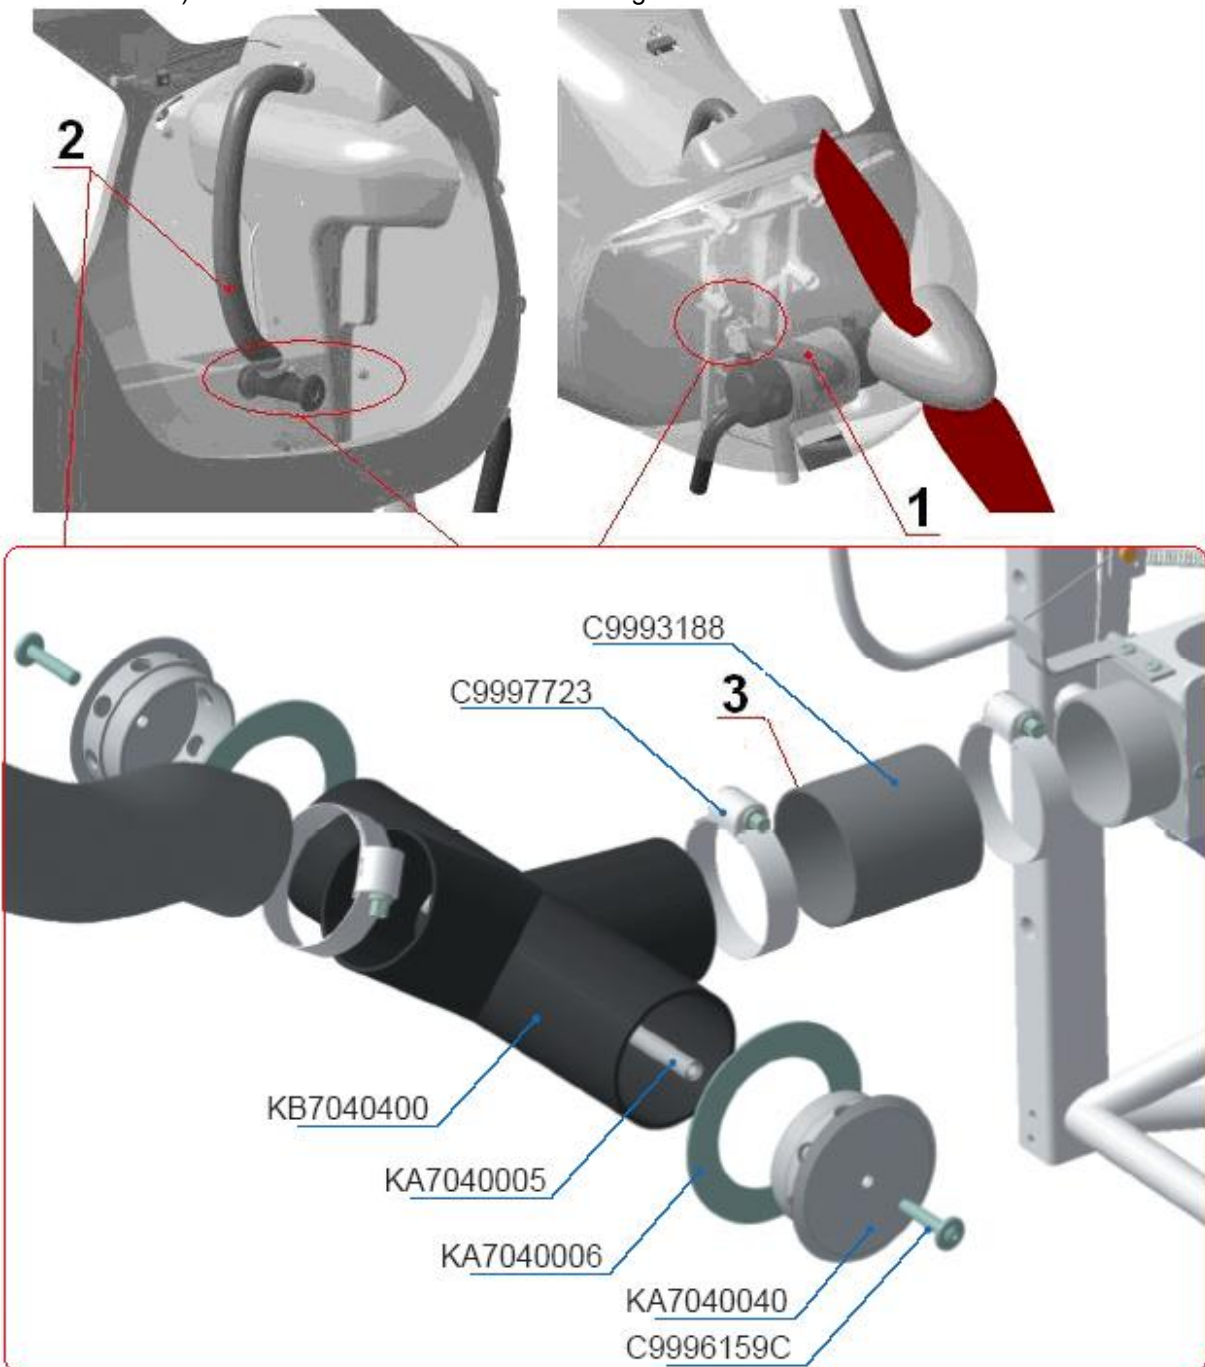

Fig. 7
- d. Proceed to item 4.
7. Remove the central panel from the instrument board by a 3 hex-nut screwdriver and inspect all parts of the manifold C9993188 (AERODUCT tube CEET-7 1-3/4 ID) for integrity. The manifold consist of three pieces of hose C9993188 AERODUCT tube CEET-7 1-3/4 ID (1 long piece in the engine compartment (1), long piece in the cabin (under the instrument board) (2), and the short piece (3) between the Cabin heater choke KA7040200 and KB7040400 Air branch canal (Fig. 7) If no damages are found, proceed to item 8, otherwise replace the damaged hose as follows.
- a. Unscrew the bolt by a cross-screwdriver or wrench with header 7 and release the clamp C9997723 Clamp 40-60 that secures the hose C9993188 (AERODUCT tube CEET-7 1-3/4 ID) near KB7040400 Air branch canal. Fig. 7.
- t. Disconnect KA7040002 (Tap) from KB7040400 (Air branch canal). Fig. 7
- u. Unscrew the bolt by a cross-screwdriver or wrench with header 7 and release the clamp C9997723 Clamp 40-60 that secures the hose C9993188 (AERODUCT tube CEET-7 1-3/4 ID) near KB7040400 Air branch canal. Fig. 7.
- v. Unscrew the bolt with a cross-screwdriver or wrench with header 7 and release the clamp C9997723 Clamp 40-60 that secures the hose C9993188 (AERODUCT tube CEET-7 1-3/4 ID) near the Cabin heater choke KA7040200 Fig. 7.